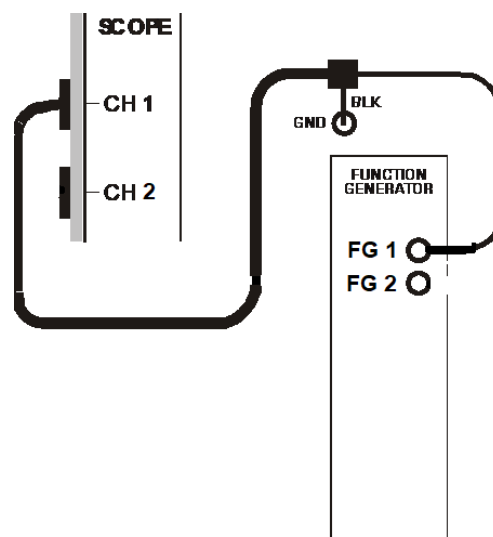

Figure 6: FUNCTION GENERATOR viewing with SCOPE
37. Connect the set-up in Figure 6 below.